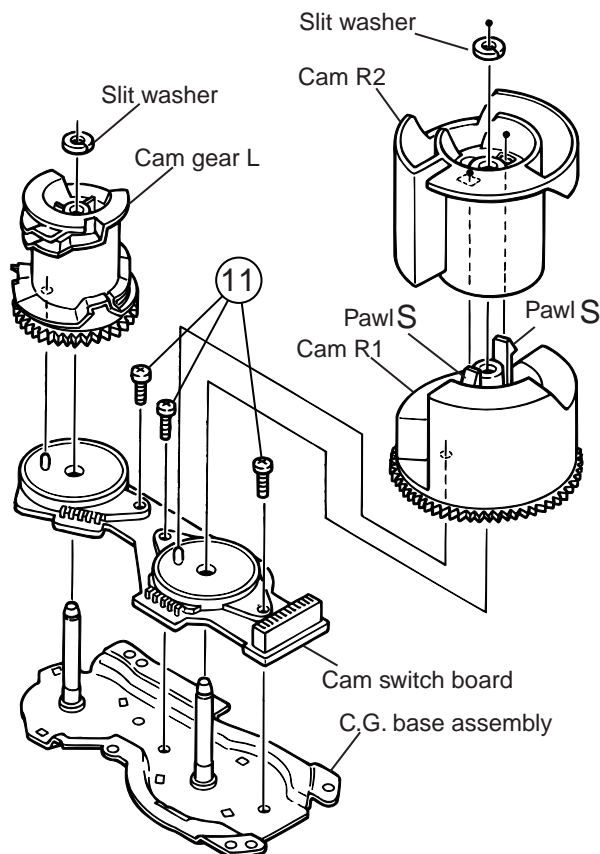

Fig.22
[Note] When the chassis assembly is turned over under the conditions wherein the gear bracket and belt have been removed, then the pulley gear as well as the gear, etc. constituting the gear unit can possibly be separated to pieces. In such a case, assemble these parts by referring to the assembly and configuration diagram in Fig. 22.
■Removing the cams R1/R2 assembly and cam gear L(See Fig.22)
■Removing the C.G. base assembly (See Fig.22 and 23)